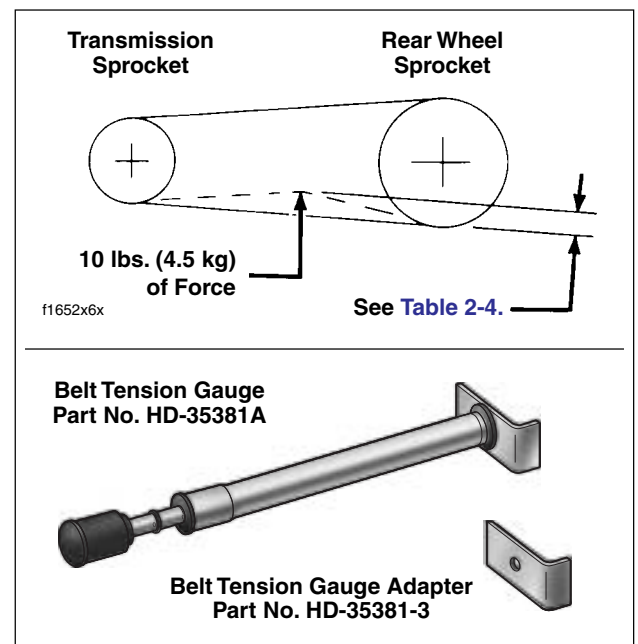

Figure 2-104. Check and Adjust Belt Deflection
16. Check deflection at the loosest spot in the belt. Use BELT TENSION GAUGE (HD-35381A), or install narrow saddle (HD-35381-3) on existing gauge, and apply 10 lbs. (4.5 kg) of force at the midpoint of the bottom belt strand. See Figure 2-104. Belt deflection should be as follows: